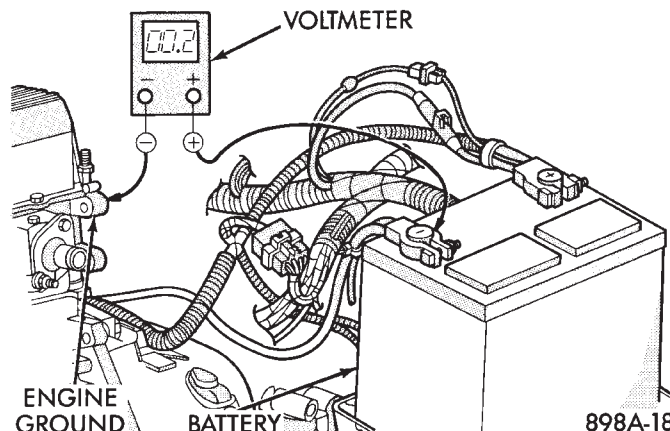

Fig. 13 Test Ground Circuit Resistance - Typical
(4) Connect the voltmeter to measure between the battery negative terminal post and a good clean ground on the engine block (Fig. 13). Rotate and hold the ignition switch in the Start position. Observe the voltmeter. If the reading is above 0.2 volt, clean and tighten the battery negative cable attachment on the engine block. Repeat the test. If the reading is still above 0.2 volt, replace the faulty battery negative cable.